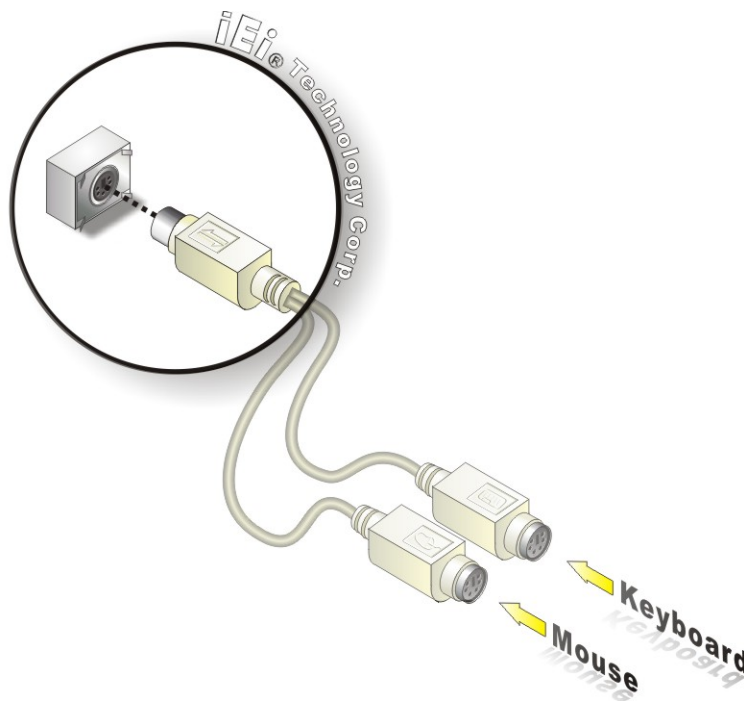

Figure 5-18: PS/2 Keyboard/Mouse Connector
Step 2: Insert the keyboard/mouse connector. Insert the PS/2 connector on the end of the PS/2 y-cable into the external PS/2 connector. See **Figure 5-18**.